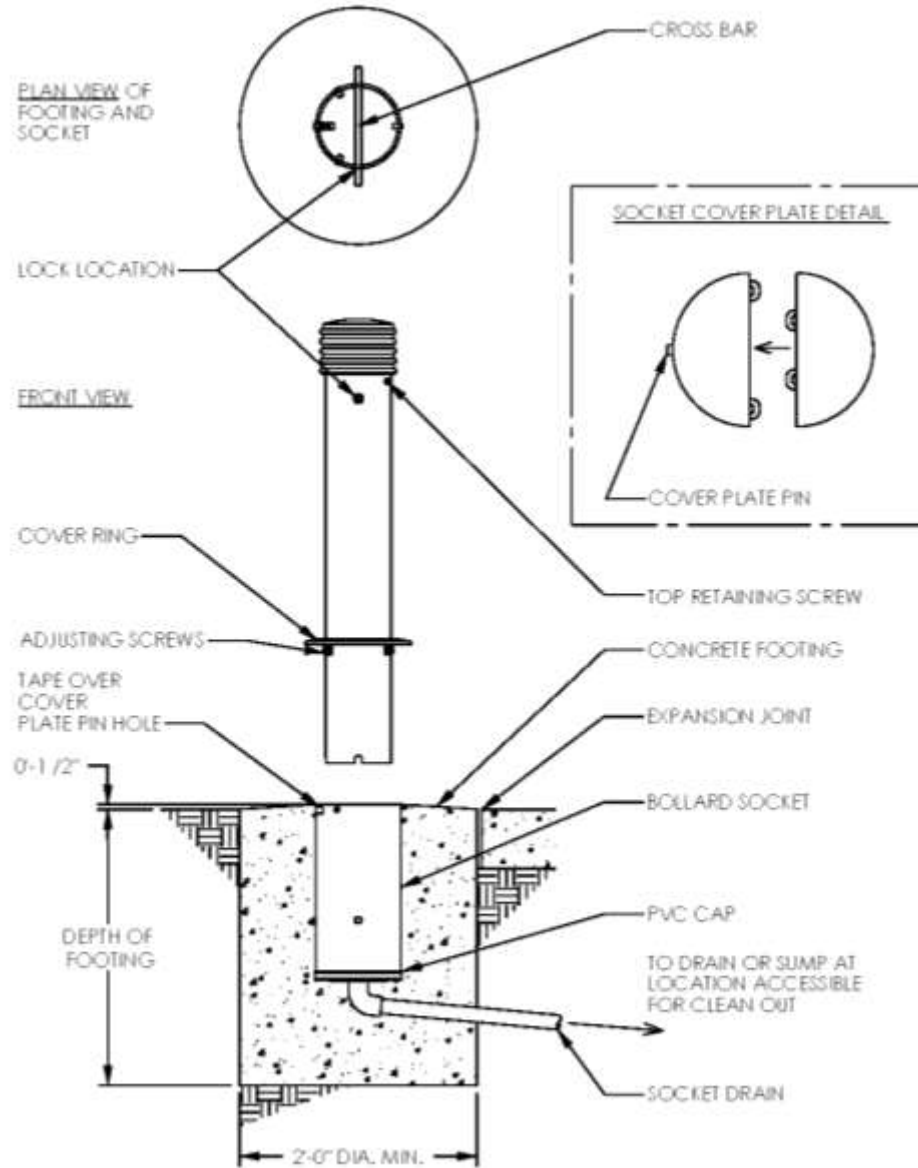

Figure 1.
1. Excavate for socket footing and install drain (see Figure 1). Depth of socket is 1'-6". Depth of footing is 2'-0" minimum, or as frost conditions require.